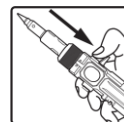

Fig. 2
- With thumb or forefinger, slowly pull downward on the gas open / ignition lever, holding in the down position for 3 seconds (fig. 2).